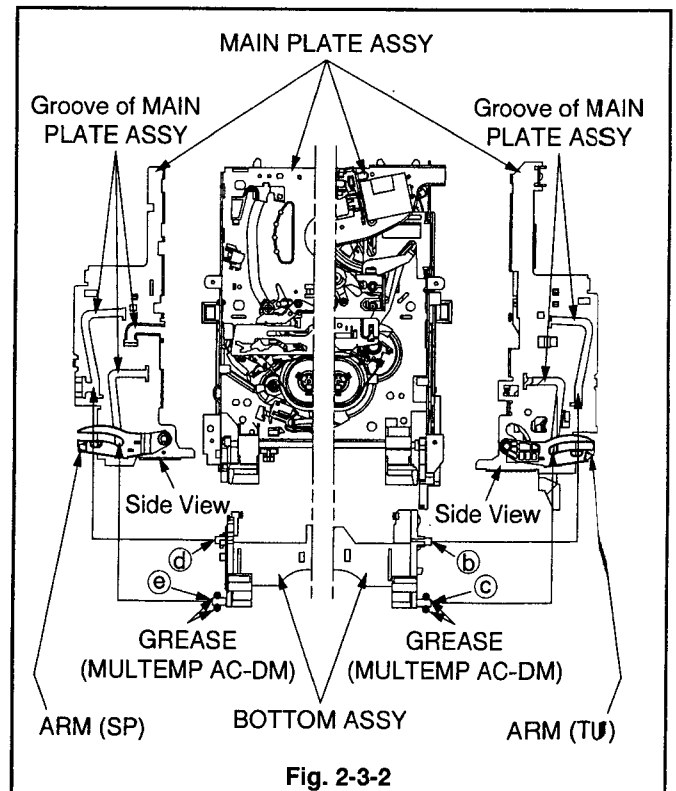

Fig. 2-3-2
1. Apply GREASE (MULTEMP AC-DM)[859D055O90] to the Grooves of the MAIN PLATE ASSY shown in the Fig. 2-3-2.
2. Apply GREASE (MULTEMP AC-DM)[859D055O90] to the Bosses of the BOTTOM ASSY shown in the Fig. 2-3-2.
4. Insert the Boss (b) of the BOTTOM ASSY shown in the Fig. 2-3-2 in the Upper Groove of the MAIN PLATE and the Boss (c) in the Lower Groove.